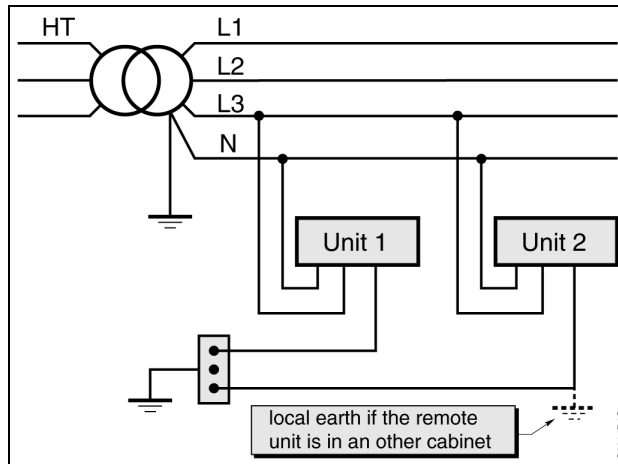

Figure 4-10 : Power supply T-T
- T-T neutral: The neutral is connected to the earth. All the metallic parts are earthed (see Figure 4-10).